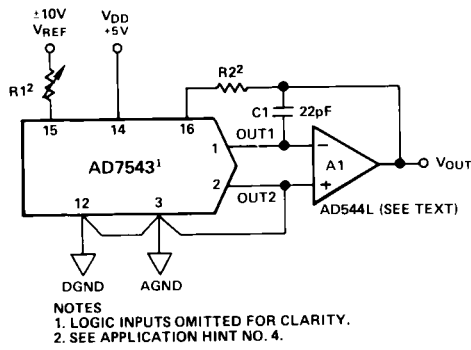
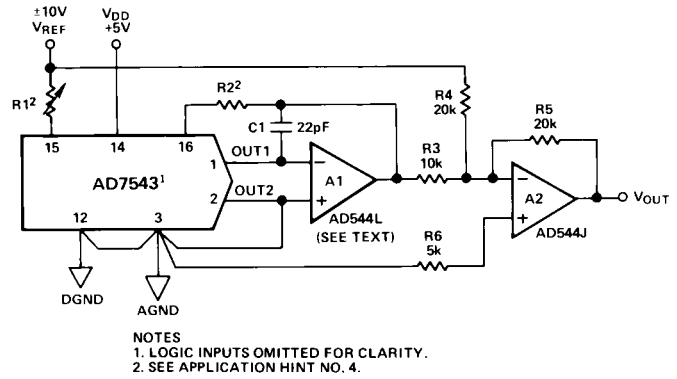

Figure 6. Unipolar Binary Operation (2-Quadrant Multiplication)
Figure 7. Bipolar Operation (4-Quadrant Multiplication)
Gain is defined as the ratio of the DAC's Full Scale output to its reference input voltage. An *ideal* AD7543 would exhibit a gain of $-4095/4096$. Gain error is adjustable using external trims as shown in Figures 6 and 7.
Register B can be asynchronously reset to 0000 0000 0000 by bringing CLR momentarily LOW. This allows the DAC output voltage to be set to a known condition, thus simplifying system initialization procedure. When operating the AD7543 in the unipolar circuit of Figure 6, a CLEAR causes the DAC output voltage to equal 0V. When using the bipolar circuit of Figure 7, a CLEAR causes the DAC output to equal -VREF.
Figure 6 shows the analog circuit connections required for unipolar binary (2-quadrant multiplication) operation. The logic inputs are omitted for clarity. With a dc reference voltage or current (positive or negative polarity) applied at pin 15, the circuit is a unipolar D/A converter. With an ac reference voltage or current (again of + or - polarity) the circuit provides 2-quadrant multiplication (digitally controlled attenuation). The input/output relationship is shown in Table III.
Table III. Unipolar Binary Code Table for Circuit of Figure 6
Figure 7 and Table IV illustrate the circuitry and code relationship for bipolar operation. With a dc reference (positive or negative polarity) the circuit provides offset binary operation. With an ac reference, the eleven LSBs provide digitally controlled attenuation of the ac reference while the MSB provides polarity control.
Table IV. Bipolar Code Table for Offset Binary Circuit of Figure 7
4. GAIN TEMPERATURE COEFFICIENTS: The gain temperature coefficient of the AD7543 has a maximum value of 5ppm/°C and a typical value of 2ppm/°C. This corresponds to gain shifts of 2.0LSBs and 0.82LSBs respectively over a 100°C temperature range. When trim resistors are used to adjust full-scale range as shown in Figures 6 and 7 the temperature coefficient of R1 and R2 should be taken into account. It may be shown that the additional gain temperature coefficients introduced by R1 and R2 may be approximately expressed as follows:—